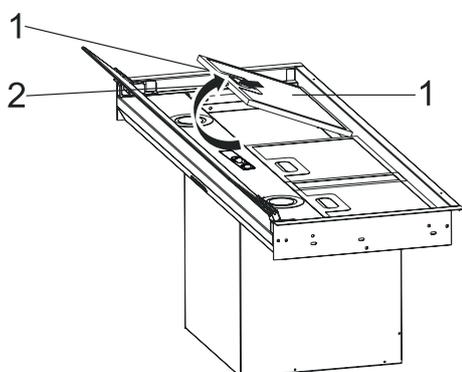

Fig. 10
1. ➤ Remove the appliance package and place the aluminium filters facing upwards. (Fig. 10).
Press the aluminium filter latch (Fig. 10/1) and pull upwards (Fig. 10/2) to remove.